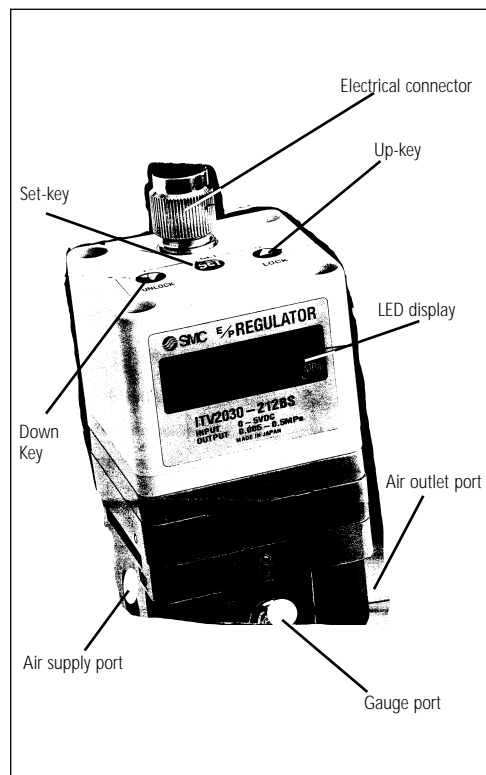

Fig 1
Note: If the supply exceeds 30mA the sensor will output to the LED display (Fig 1) and show 'Er 5'.
- Release 'lock key' (Fig 1) as explained in section - 'Function of key-lock'.
- To set minimum pressure (display shows F-1 Fig 1) use up/down keys (Fig 1) to set minimum pressure, press 'set' key (Fig 1) to 'lock' setting.
- To set maximum pressure (display shows F-2 Fig 1) use up/down keys (Fig 1) to set maximum pressure, press 'set' key (Fig 1) to 'lock' setting.
- To set switch output 1 (display shows P-1 Fig 1) use up/down keys to set switch output, press 'set' key (Fig 1) to 'lock' setting.
- To set switch output 2 (display shows P-2 Fig 1) use up/down keys to set switch output.
Push 'down' key (Fig 1) for longer than 2 seconds. Display (a) flashes 'loc'.
- Push 'set' key (Fig 1) lock automatically releases.
- Push 'down' key (Fig 1) again to cancel operation.
- Push down on 'un-lock' (Fig 1) key for longer than 2 seconds.
Note: To cancel push 'lock' key (Fig 1).
- Push down on 'up' Δ (Fig 1) for longer than 2 seconds.
- Push 'set' key (Fig 1) to lock.
Note: To cancel push 'down' key (Fig 1).
If an abnormality is detected by the ITV3000, the LED display (Fig 1) will show 'Er' followed by a code number. Isolate the power supply and ascertain and solve the problem. Re-instate power supply after correcting the fault.
Push up and down keys (Fig 1) together for longer than 3 seconds. Display (Fig 1) shows 'RES'. Release keys, minimum, maximum pressures, switch outputs P1 and P2 are reset to start condition.